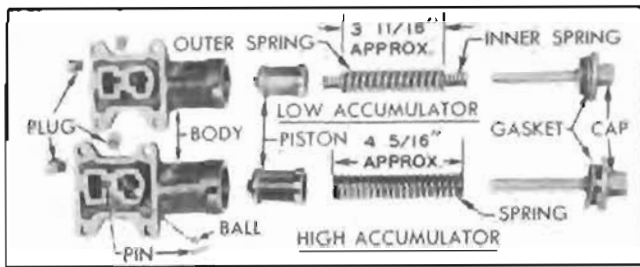

Figure 4-109—High and Low Accumulators—Disassembled
2. Remove the pipe plug, cap, gasket, spring and piston from accumulator body. Keep parts separated so that same parts will be reinstalled in same body. See figure 4-109.
9. Install proper springs in each body as shown in figure 4-109, then install caps with new gaskets. Caps will be tightened later—*do not clamp accumulator in vise to tighten caps.*
10. Install pipe plugs in both accumulator bodies and install check ball and retaining pin in the high accumulator body. See figure 4-109.